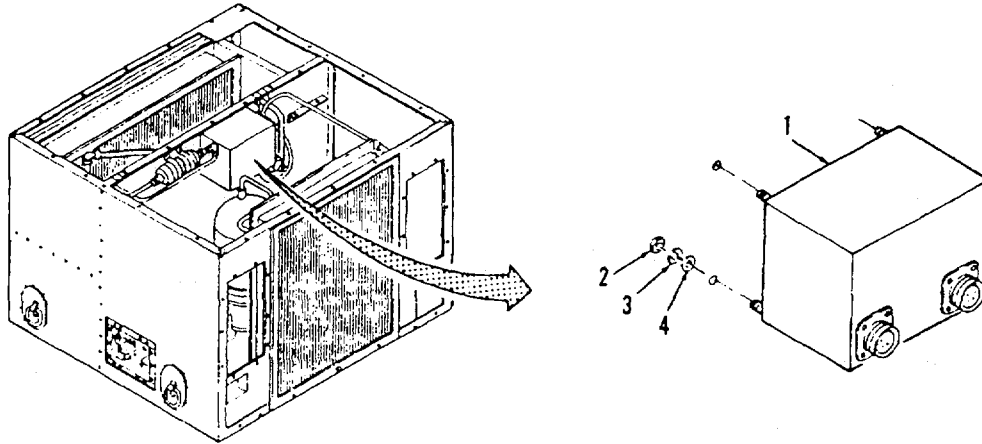

Figure 3-31. EMI Filter.
- a. **Removal.** (Refer to Figure 3-31).